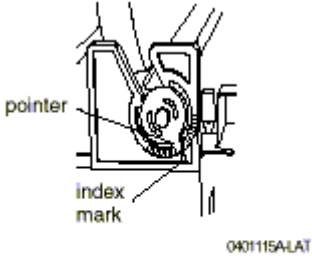

Figure 5.
7. Reinstall the cams on the carriage shaft; reattach carriage to the Paper Feed / Carriage Assembly; position the cams as shown in Figure 5.